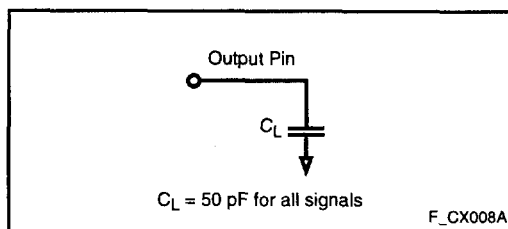
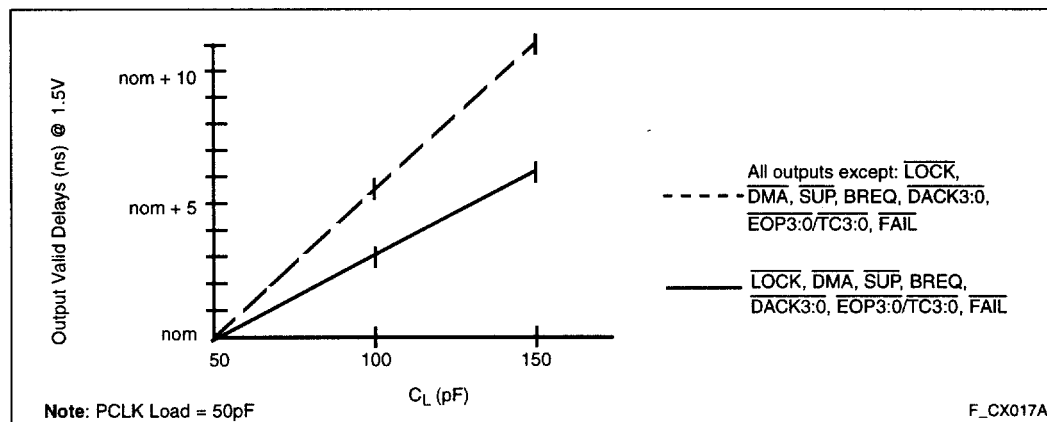

Figure 7. AC Test Load
Figure 16. Output Delay or Hold vs. Load Capacitance
- See Figure 16 for capacitive derating information for output delays and hold times.
The AC Specifications in Section 4.5 are tested with the 50 pF load shown in Figure 7. Figure 16 shows how timings vary with load capacitance.